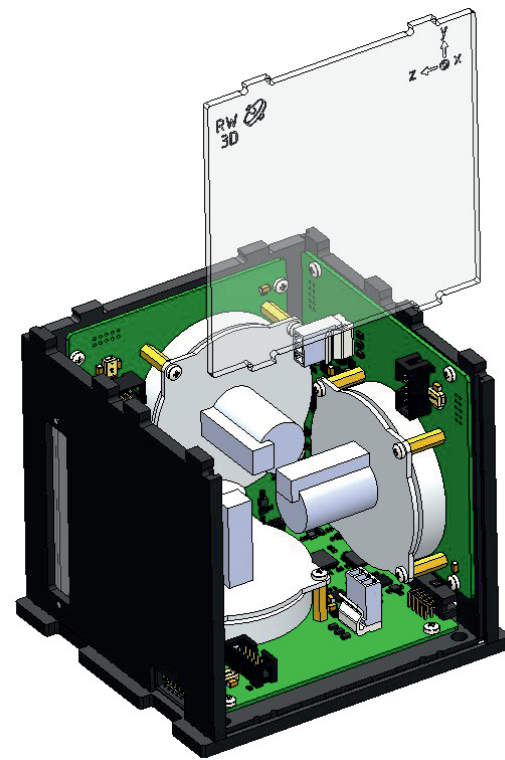

Fig. 62: Mounting a transparent panel
8) Secure the transparent panel on the bottom base plate. To do that, slide the panel along guide rails in walls until it touches the bottom base plate, then latch it. Observe the position and axial alignment of the transparent panel as indicated below (Fig. 62):